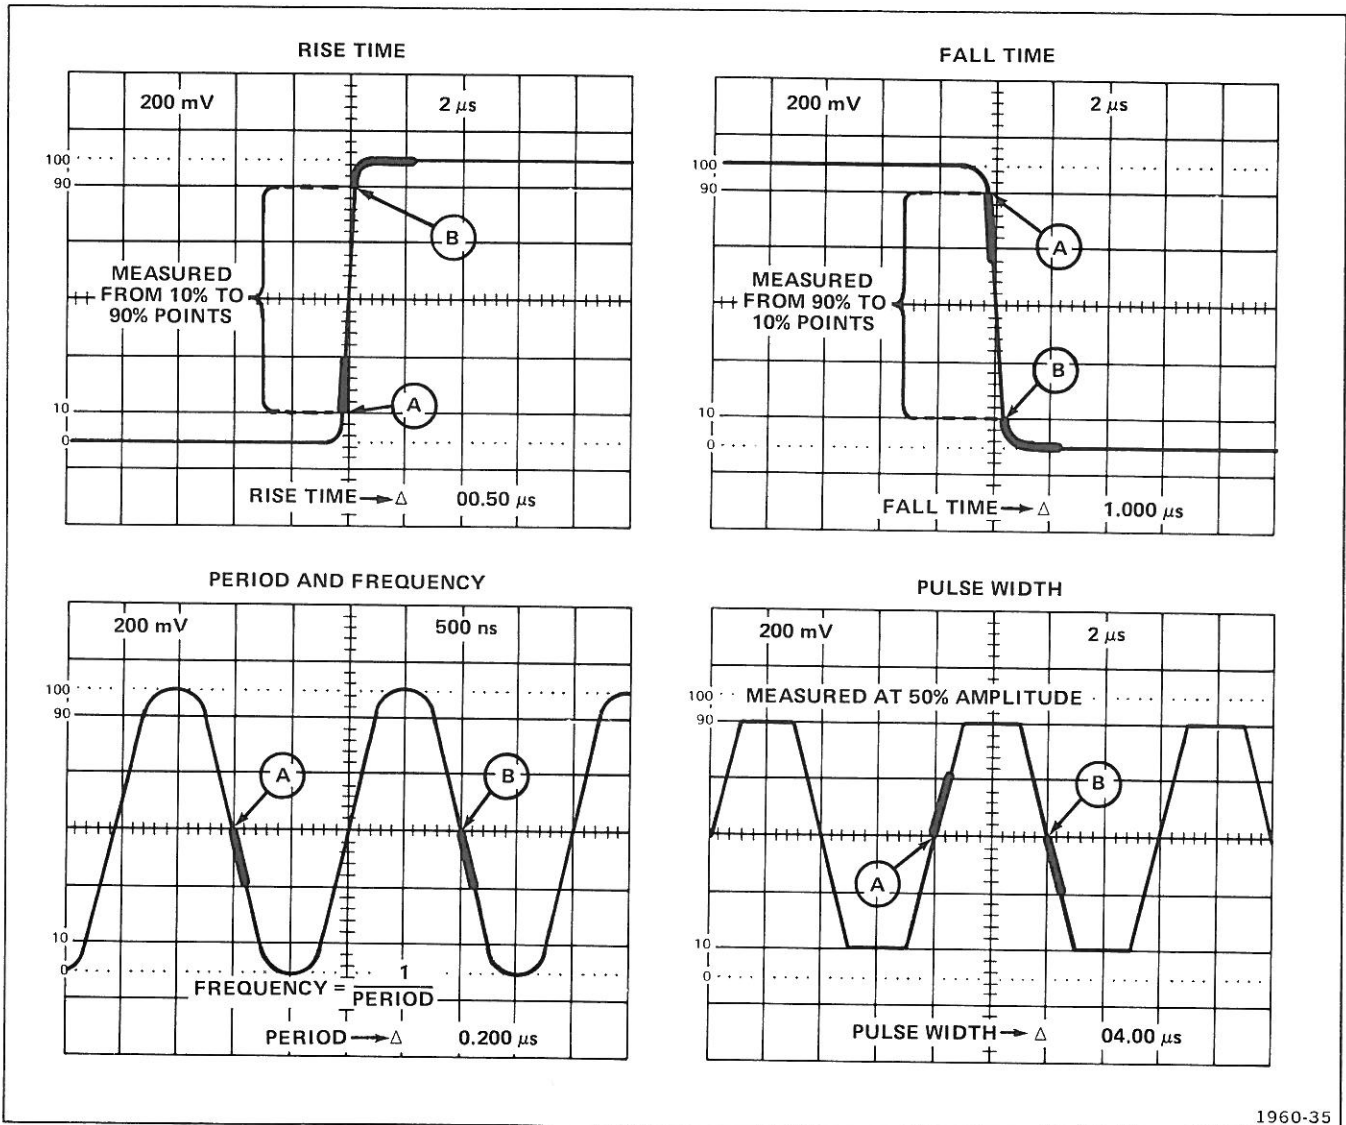

Fig. 1-9. Measuring rise time, fall time, period, frequency, or pulse width in the Δ (differential) time mode.
6. Set the appropriate triggering, position, deflection-factor, and sweep-rate controls to obtain the desired display. See the examples in Figure 1-9.
7. Adjust the DELAY TIME control to position the leading edge of the first intensified zone to the beginning of the time interval to be measured (see Figure 1-9, point A).
9. Adjust the  $\Delta$  TIME control to position the leading edge of the second intensified zone to the end of the time interval to be measured (see Figure 1-9, point B).